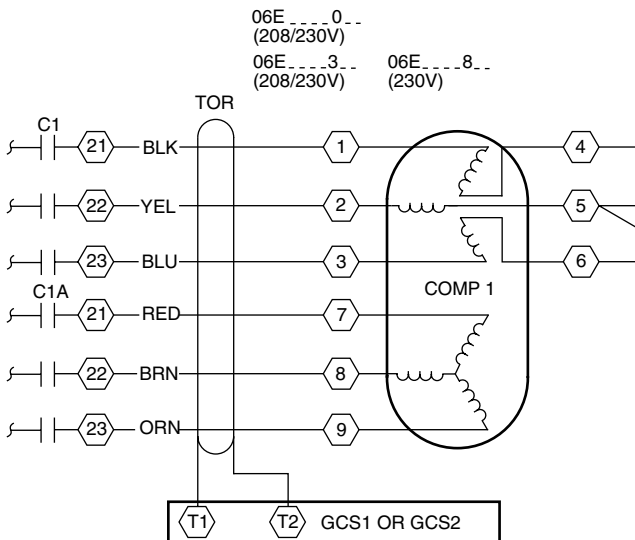

Fig. 7 — 30HK,HL Toroid Field Wiring for 208/230-V Temperature Controller
3. Connect the toroid leads to GCS1-T1 and GCS1-T2. See Fig. 7 and 8.
6. Connect the toroid leads to GCS2-T1 and GCS2-T2. See Fig. 7 and 8.